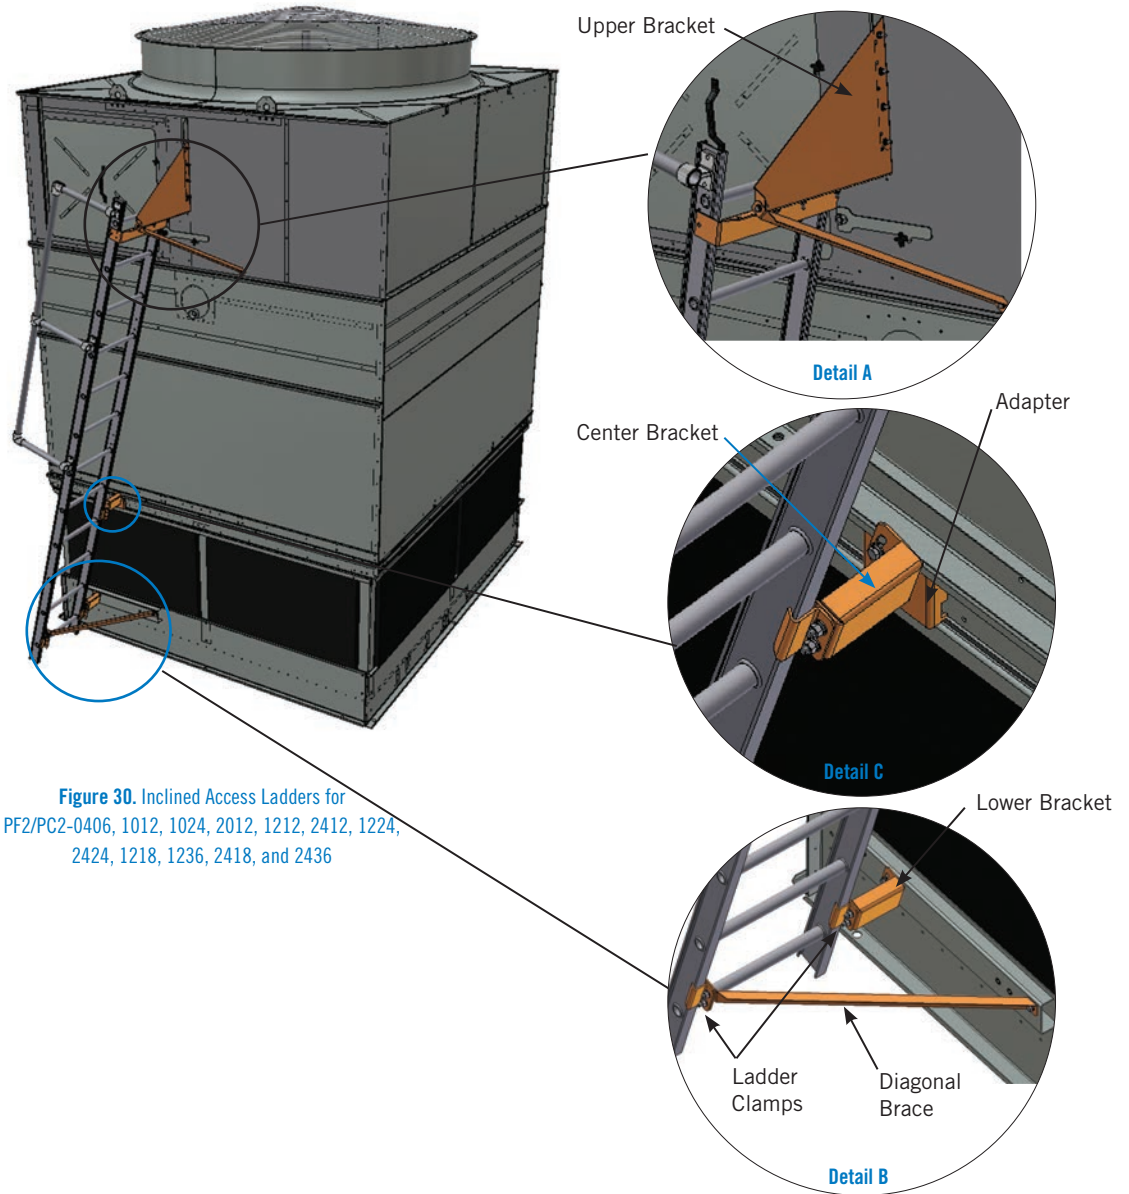

Figure 30. Inclined Access Ladders for PF2/PC2-0406, 1012, 1024, 2012, 1212, 2412, 1224, 2424, 1218, 1236, 2418, and 2436
3. For PF2/PC2-1012, 1024, 2012, 1212, 2412, 1224, 2424, 1218, 1236, 2418, and 2436 units, install the center adapter and bracket as shown in **Figure 30, Detail C**. To install, fasten the center bracket to the adapter, but do not tighten the fasteners. The bracket flanges should face toward the unit end wall while the adapter is oriented with the holes positioned on top. Capture down break on channel between the bracket and adapter.